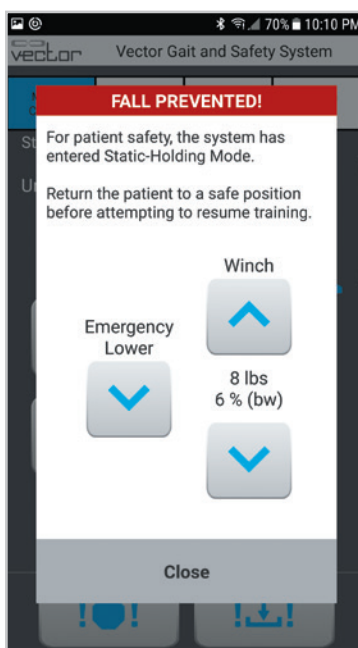

Figure 9-11: Fall Prevention Dialog Box
1. When the Vector Elite system detects a fall, the Fall Prevented window appear. See Figure 9-11.